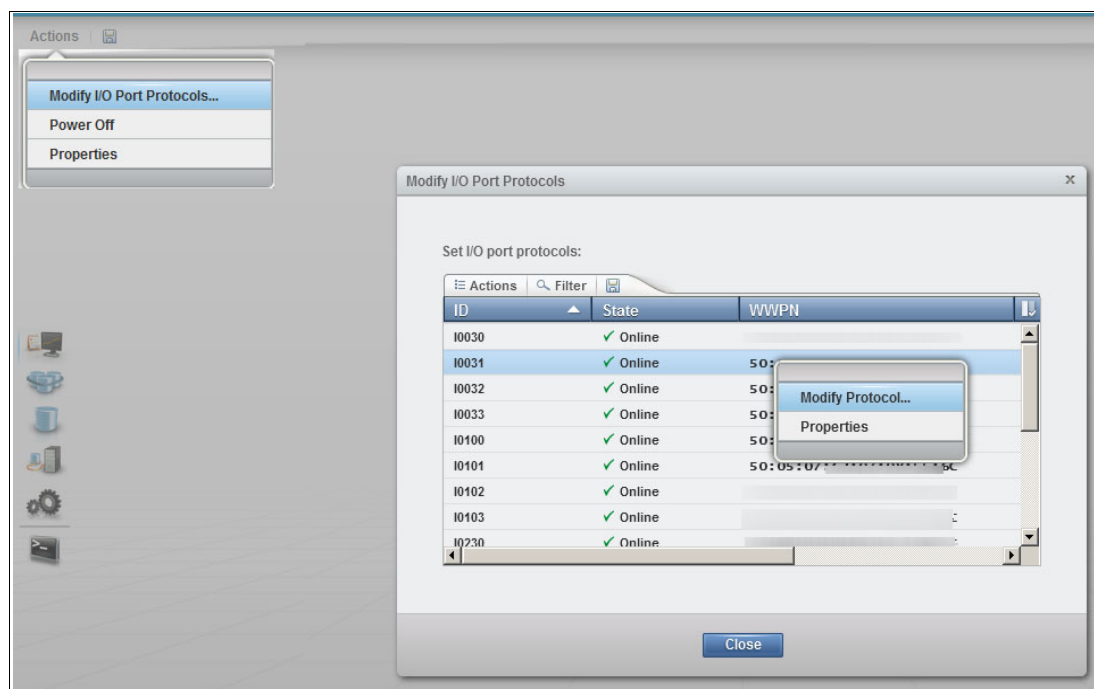

Figure 11-42 Modify I/O Port Protocols window
1. From the Storage Management GUI System window, click the **Actions** menu and select **Modify I/O Port Protocols** to open the Modify I/O Port Protocols window (Figure 11-42).